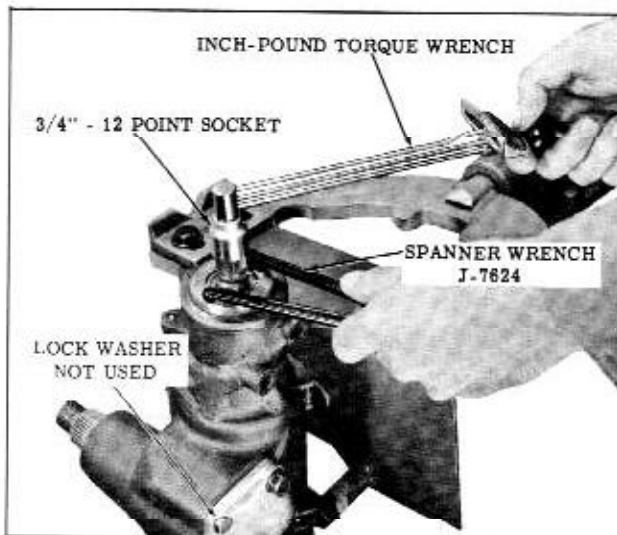

Fig. 4-69 Adjusting Thrust Bearing Preload
- c. Install the 4 side cover bolts and 3 lock washers and tighten 25 to 30 ft. lbs. Refer to Fig. 4-69 for washer location.
- c. Install an inch-pound torque wrench with a 3/4" 12 point socket on the lower shaft splines. (Fig. 4-69)